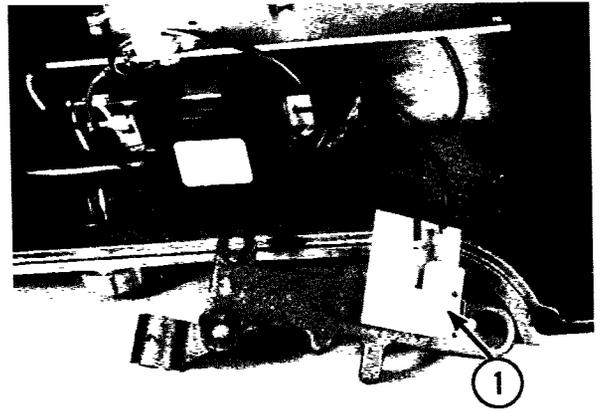

Fig. 2-45
- (3) Remove bowl interlock switch and insulator (1, Fig. 2-45).
- (4) Reassemble in the reverse order of removal.
- (5) Test for correct interlock operation.
**F. Bowl interlock switch removal (1, Fig. 2-45).**
- (1) Remove switch rod (step A), interlock pin bar (step B), switch control shaft (step C), On/Off switch (step D) and switch interlock frame (step E).
- (2) Disconnect the leads to the switch.
- (3) Remove two screws and remove the switch and insulator.
- (4) Reassemble in the reverse order of removal. Connect the electrical leads according to the wiring diagram on the machine. (Wires are branded).